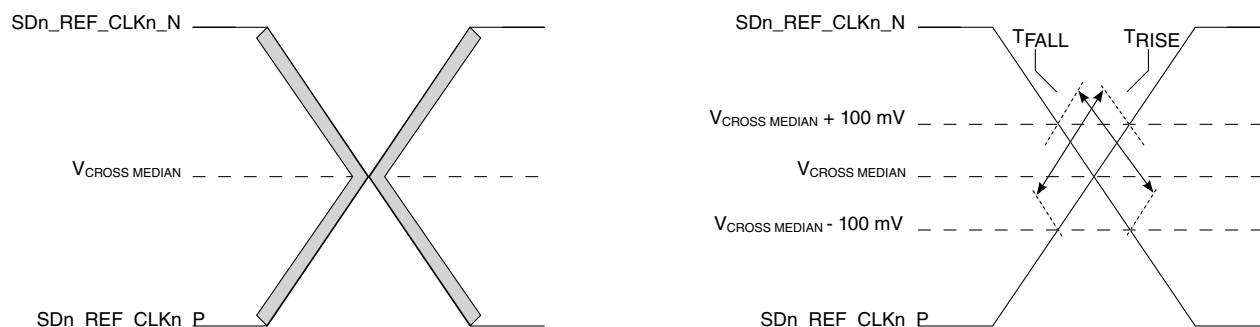

Figure 73. Single-ended measurement points for rise and fall time matching
- Matching applies to rising edge for and falling edge rate for . It is measured using a 200 mV window centered on the median cross point where SDn_REF_CLKn_P rising meets SDn_REF_CLKn_N falling. The median cross point is used to calculate the voltage thresholds that the oscilloscope uses for the edge rate calculations. The rise edge rate of SDn_REF_CLKn_P must be compared to the fall edge rate of SDn_REF_CLKn_N, the maximum allowed difference should not exceed 20% of the slowest edge rate. See Figure 73.